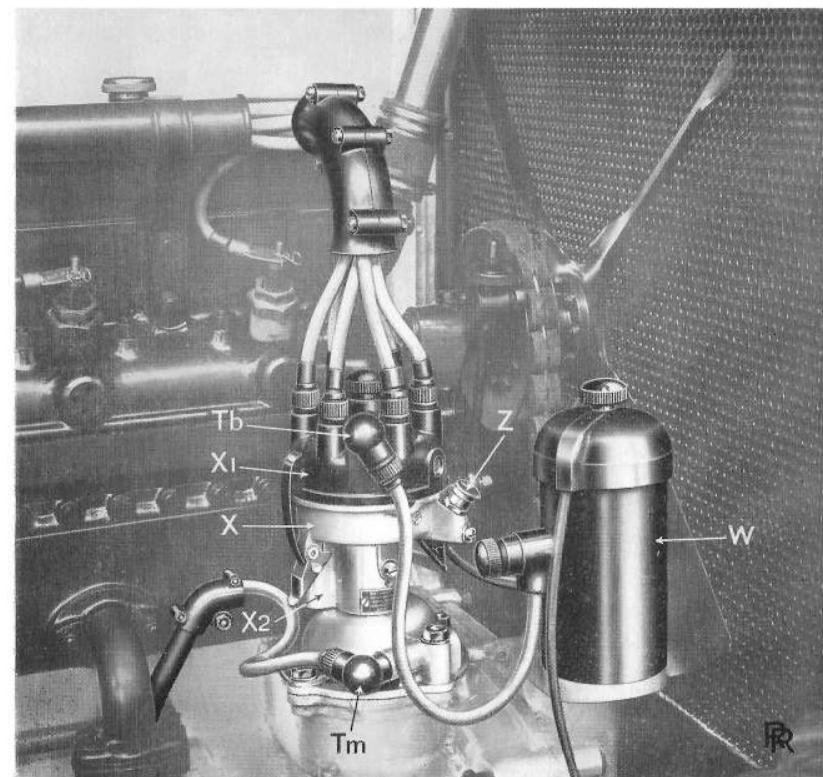

FIG. 10. IGNITION COIL AND DISTRIBUTOR.
**Battery Ignition.** The battery ignition is in a very accessible position, as shown in Fig. 10, and consists of a non-trembler ignition coil **W**, and combined low-tension contact breaker **X** and high-tension distributor **X1**.
A few drops of engine oil should be injected into lubricator **Z** (Fig. 10) every 2,000 miles, as directed on page 36, in order to lubricate
No high-tension distributor is provided on the magneto. It is arranged to deliver two high-tension sparks per revolution, and a single high-tension lead conveys these to the battery ignition distributor. The lead is fitted with a terminal which is interchangeable with that of the lead from the coil, and is normally carried in a holder on the ignition tower, as shown at **Tm** in Fig. 10. Thus, to put the magneto into service it is only necessary to engage the drive coupling